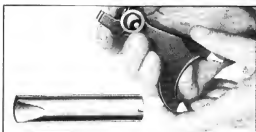

Fig. 23—Depressing Lock Ball
2. In assembling the shifter forks to the shafts, first place the shift lock spring and ball in the fork. With the special tool shown in Fig. 23 force the ball down on the spring in the fork, then turn the tool one half turn to hold the ball in position. This tool holds the shift lock ball and prevents it from jumping out while the shaft is being installed.